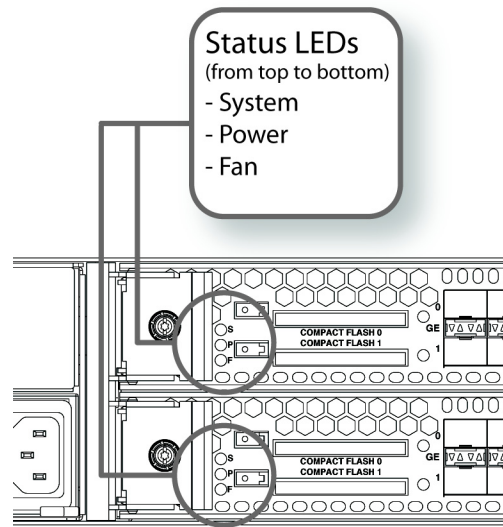

Figure 6-4 System, Power, and Fan Status LEDs on the NAS Blade
Step 2: If any of the status LEDs are not green, check the LEDs on the rear of the NAS Blades. Figure 6-4 shows the NAS blade status LEDs.